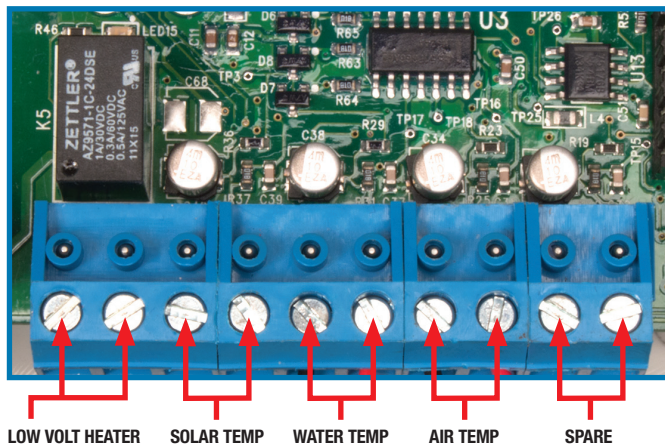

Figure 5. Sensor Connection
3. Connect Solar sensor wires to pins #3 and #4. (See Figure 5. Sensor Connection).
3. Connect sensor wires to pins #1 and #2. (See Figure 5. Sensor Connection).